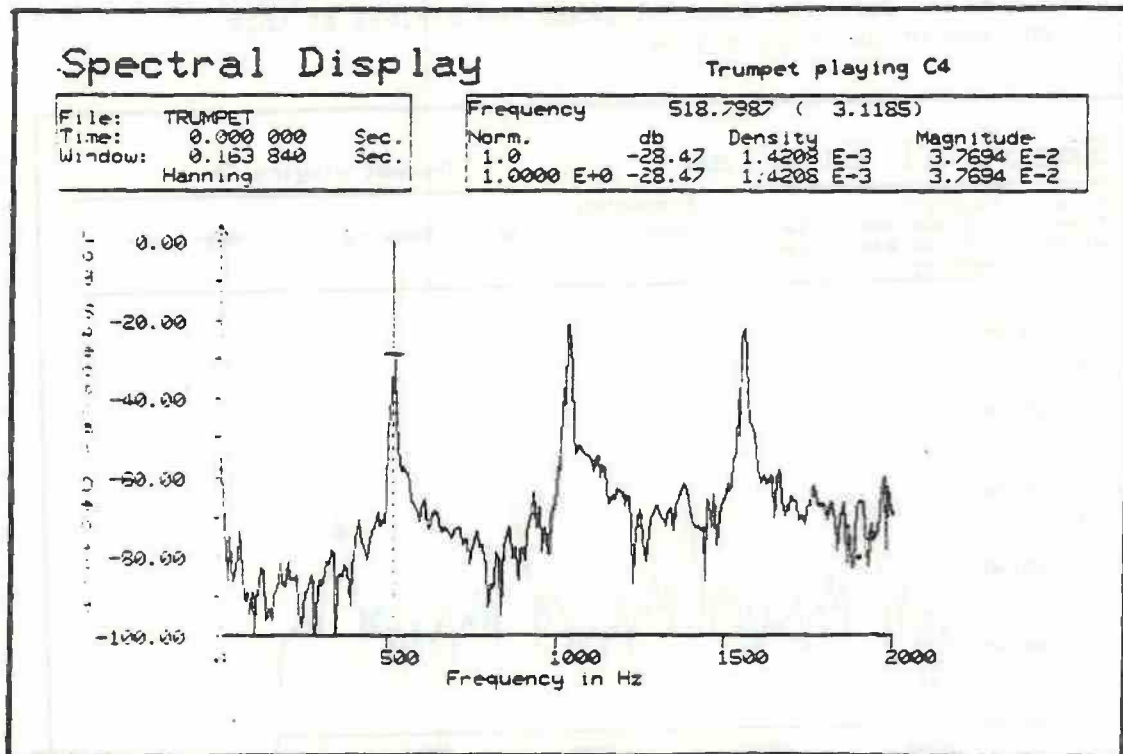

Figure 9.15
5. Position the cursor on the first spectral peak (Figure 9.15). You will observe in the right-hand box above that the cursor can be positioned with far greater precision than before. The pitch of the first peak is actually 15 cents flat from the C above middle C, rather than a little sharp as was indicated in the display at lower resolution.